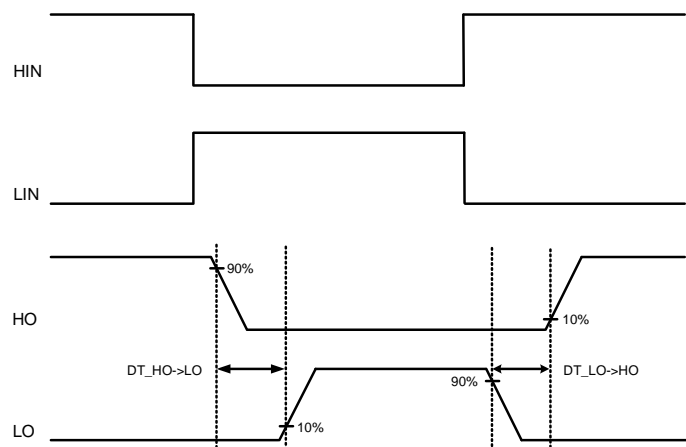

Figure 6. Illustration of deadtime
The ETA85601 features integrated deadtime protection circuitry. The dead time(DT) is automatically inserted whenever the external two input signals (between HIN and LIN signals) toggle high. Figure 6.